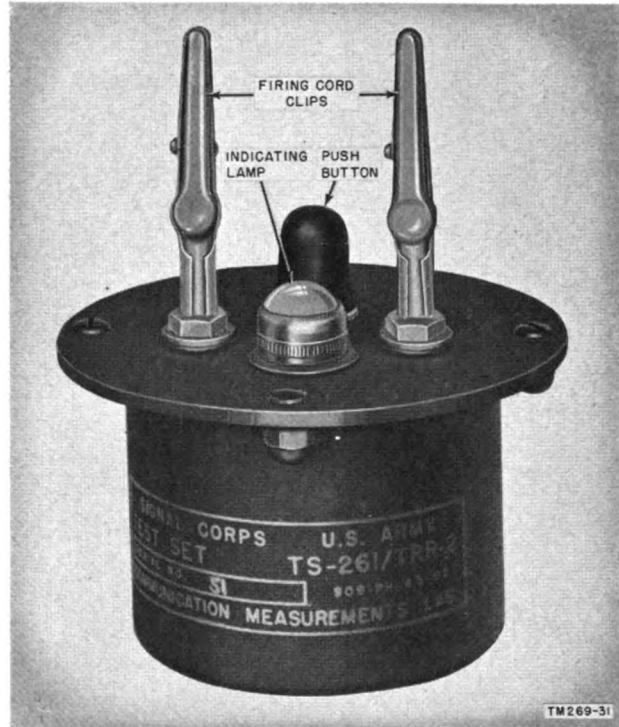
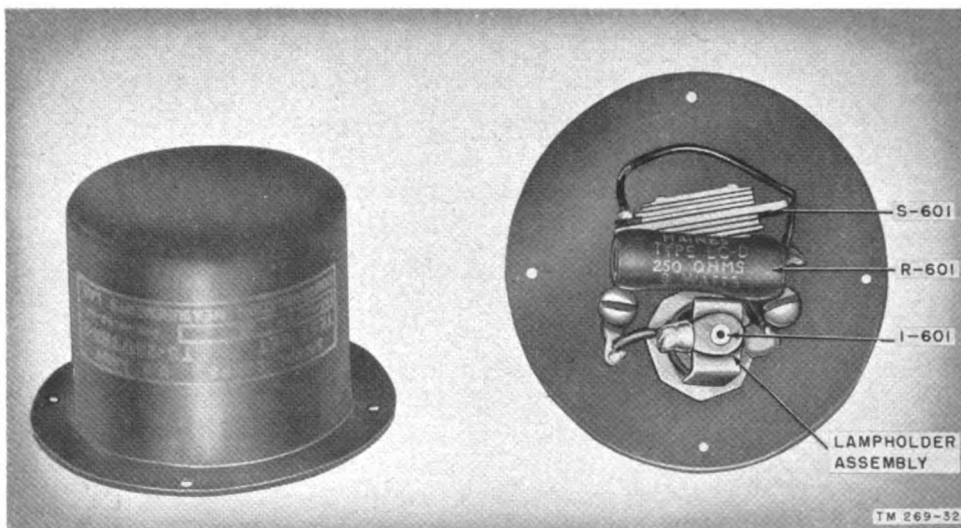

Figure 32. Test set TS-261/TRR-2.
Figure 33. Receiver test set, internal view.
- (3) Test Set TS-261/TRR-2. Test Set TS-261/TRR-2 (fig. 32) is used to check the operation of Radio Set AN/TRR-2. The unit consists of a 250-ohm resistor in series with an indicating lamp and a push-button type switch (fig. 33). The components of the test set are mounted in a waterproof aluminum box, on the outside of which are two alligator type clips. With the receiver in its case and the firing cord connected to the alligator clips, the test lamp should light (indicating proper operation) when the correct code is dialed at the transmitter. The lamp should cease to glow when the push button is depressed and should not relight after the button is released. The receiver is not functioning properly if the lamp continues to glow. Four receiver test sets are included in each spare parts box.